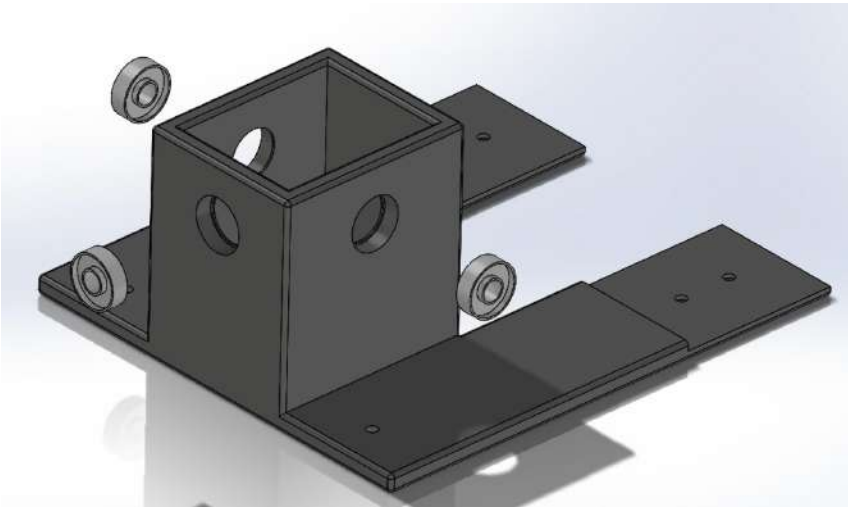

Figure 12: Adding bearings to gearbox
1. Insert three glass ball bearings into the gearbox as illustrated in figure 12.